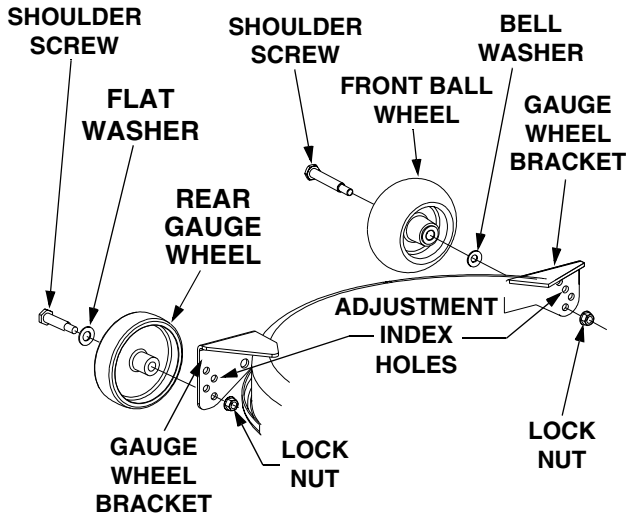

Figure 37
To adjust the height of the gauge wheels, place the tractor on a firm and level surface. Refer to Figure 37, and proceed as follows:
1. Position the tractor and mower deck on a firm, level surface. Raise the gauge wheels to their highest setting in the gauge wheel brackets (Refer to Figure 37).
1. Position the tractor and mower deck on a firm, level surface. Raise the deck gauge wheels to their highest setting in the gauge wheel brackets (Refer to Figure 37).